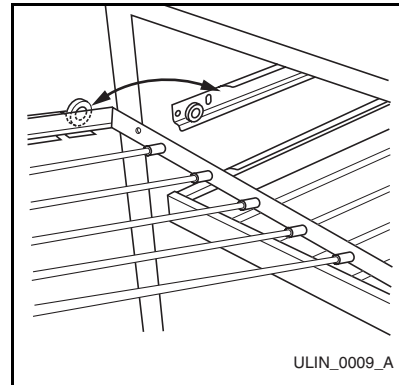

Figure 16
3. Raise the end of the rack to allow the rear rollers to clear the cabinet tracks (**Figure 16**), and pull the rack from the cabinet.
2. Slide the rack into the cabinet at an angle until the rack rollers engage the channel (**Figure 16**) on both sides.